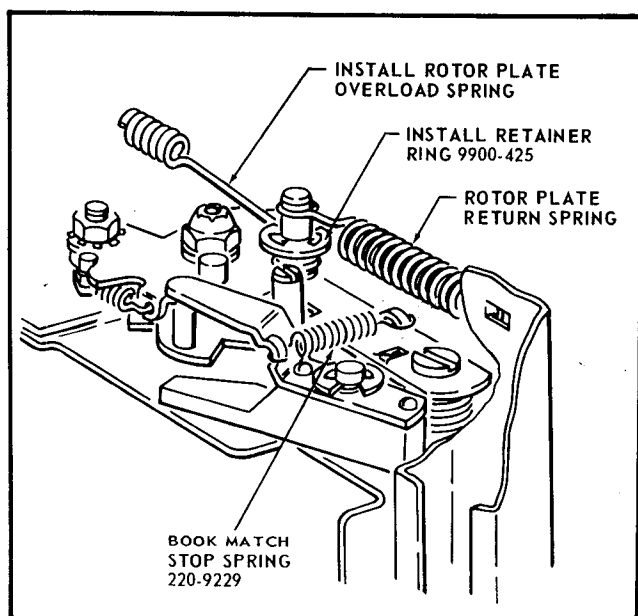

FIGURE 6
22. Install the Book Match Stop Spring, part number 220-9229. See Figure 6.